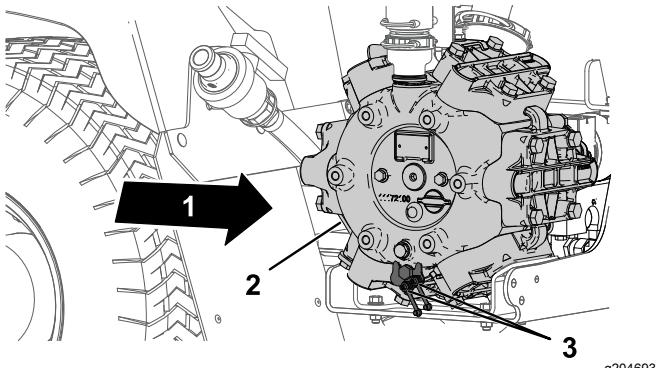

Figure 67
1. Wipe the 2 remote grease fitting clean (Figure 67).
2. Pump grease into the remote grease fitting (Figure 67).